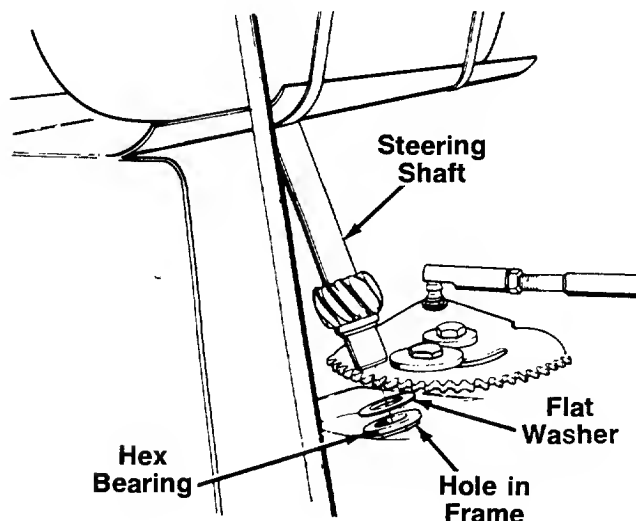

FIGURE 6.
2. Insert the hex bearing into the hole in the frame shown in figure 6.